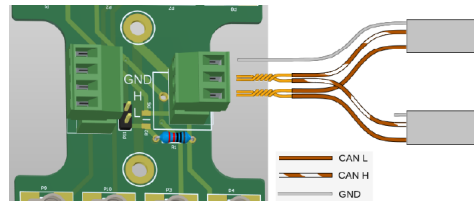

Fig. 47: Connecting communication cables to the VertiCAN board (for the Vertica pole equipped with a Vertican module).
- In the case of a Vertica pole equipped with a VertiCAN module, attach the wires in the plug in the screw connector (left) in accordance with the markings on the VertiCAN base plate (see fig. 47).